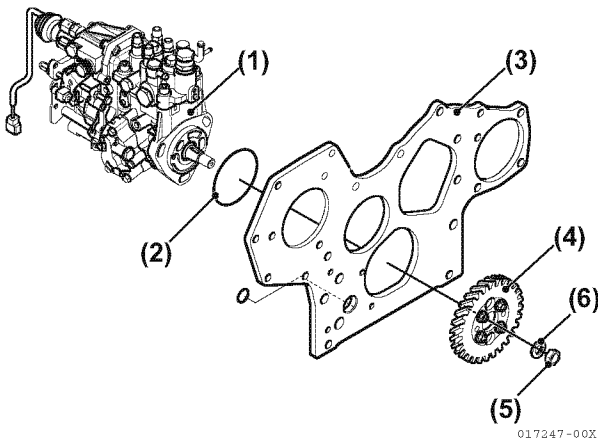

Figure 5-160
(Figure 5-160, (1)). *NOTICE: Never remove the bolts when tightening the fuel injection drive gear and fuel injection pump hub. Fuel injection timing may differ from the proper set value.*